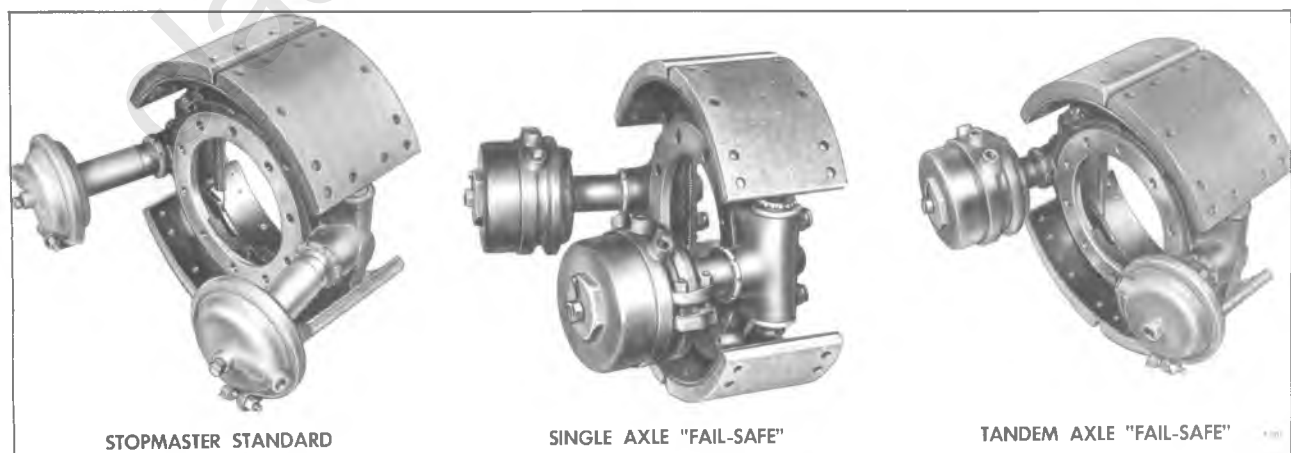

Figure 27—Stopmaster Brake Assemblies
two different type air chambers; (1) a standard air chamber which is operated by air pressure and (2) a "Fail-Safe" air chamber which can be operated either by air pressure or by spring pressure. There are three basic variations of Stopmaster brakes shown in figure 27; standard, single axle "Fail-Safe," and tandem axle "Fail-Safe."